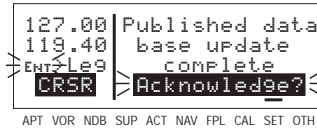

Figure 2-6
8. The KLX 135 will indicate when the data base update is complete as shown in figure 2-6. You may either turn the KLX 135 off at this point or press **ENT** to restart the KLX 135.